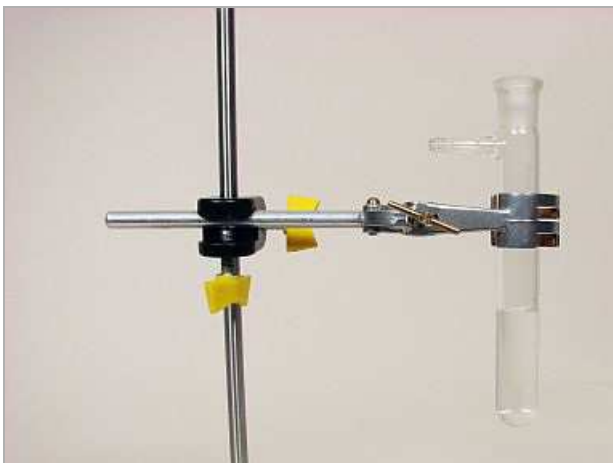
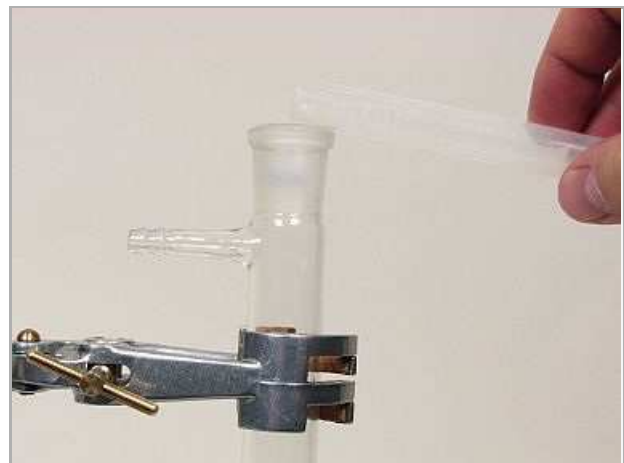

Fig. 7
Fig. 8
Fill the test tube one-third full with water (Fig. 7); add 2 ml of iron(II) sulphate solution (Fig. 8).